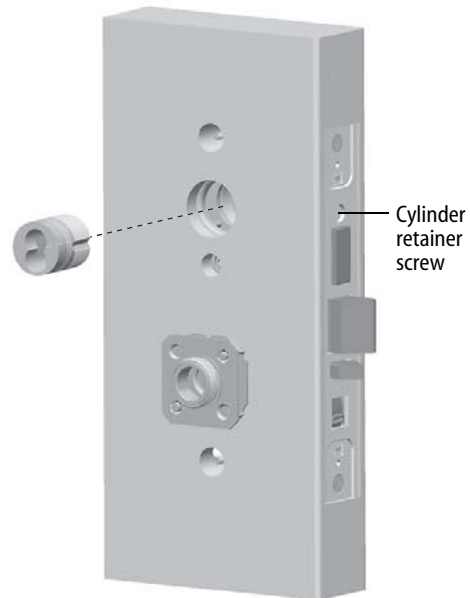

Figure 8 Installing the concealed cylinder
- 1 Use a cylinder wrench to thread the cylinder into the mortise case so that the groove around the cylinder is even with the door surface as shown in Figure 8.